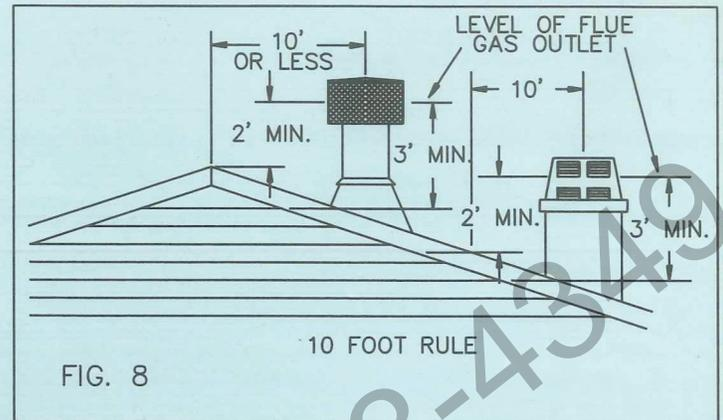

FIG. 8
STEP 5: Add the next sections of pipe until the end penetrates the roof line. Check to see that proper clearances are maintained. Extend chimney by adding sections of double wall pipe until pipe is a minimum of 30 inches above highest point of roof cut-out. Termination and chimney must extend a minimum of 36 inches above highest point where it passes through roof. SEE 10', 2' RULE (FIG. 8)
All chimney terminations must extend a minimum of 3 feet in height above the highest point where it passes through the roof and must be at least 2 feet above the peak of the roof if within a horizontal distance of 10 feet from the peak. (SEE FIG. 8)